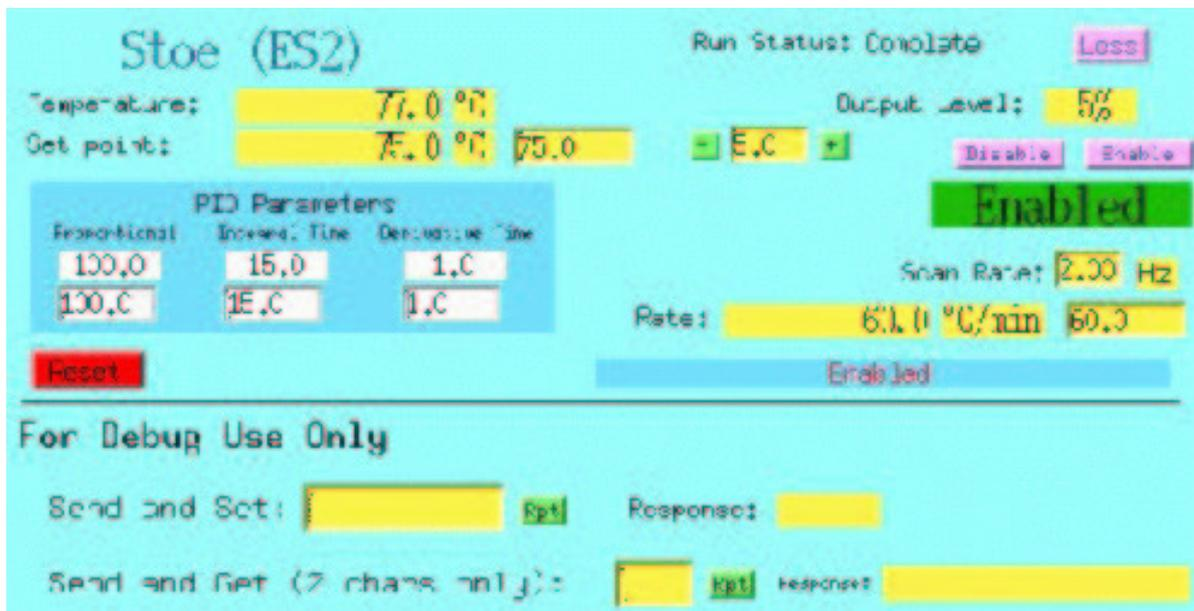

Figure 3: EPICS Panel in Enabled Mode
11. Click *Enable* on the EPICS display. Wait until the display changes to the **enabled** mode (see Figure 3).